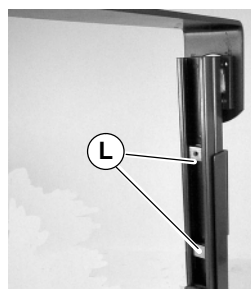

Figure 19
2. Install Spring Nuts (L of Figure 19) in steel stand leg.